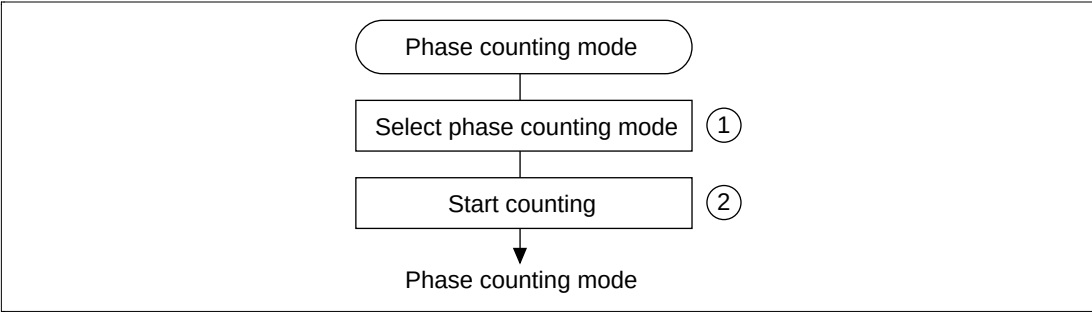

**Figure 12.29 Procedure for Selecting the Phase Counting Mode**
**Procedure for Selecting the Phase Counting Mode (Figure 12.29):**